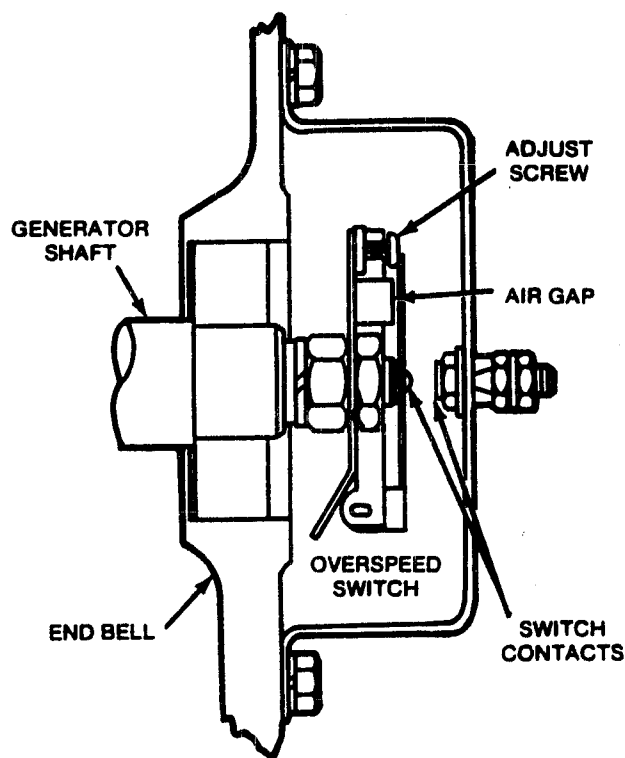

FIGURE 2 OVSPEED SWITCH
2. Set the overspeed switch adjustment screw (Figure 2) for shutdown between 2500 and 2700 RPM's. If this does not prevent shutdown on start, it may be necessary to replace the governor controller.